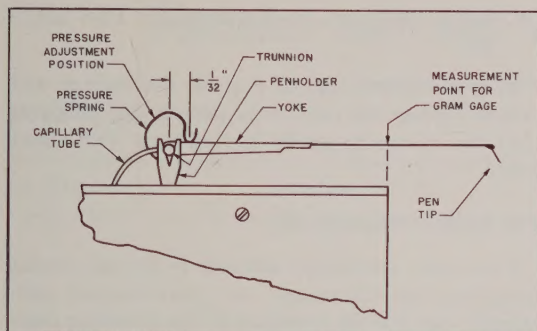

Fig. 7. Pen Mounting Diagram
3. A tension adjustment tool for adjusting the PRESSURE SPRING of the pen and stylus holder. Fig. 7.
3. Mount the PEN by grasping it between the fingers or with non-magnetic tweezers at the YOKE and in front of the TRUNNION. Insert first one side of the TRUNNION and then the other in the TWIN BRACKETED PENHOLDER without over-extending the PRESSURE SPRING. Fig. 7.
4. Test the PEN pressure by means of a gram gage, Brush Model BL-801. The gram gage should be held immediately in front of the penmotor, at right angles to the PEN, in a horizontal position (at point indicated in Fig. 7). Then PEN pressure should measure exactly 1 gram with the PEN TIP barely off the paper. If it does *not* measure 1 gram, it must be adjusted.
2. Insert the pen pressure adjusting tool in the PRESSURE SPRING at point indicated in Fig. 7. Rotate the adjusting tool in the desired direction. (Rotation *toward* the chart paper *increases* the pen pressure while rotation *away* from the chart paper *decreases* the pen pressure.)
Normally the PRESSURE SPRING should extend  $\frac{1}{32}$ " beyond the TRUNNION as shown in Fig. 7. But if sufficient pressure is not obtained in this position, it may be advanced slightly but not to exceed  $\frac{1}{16}$ ".